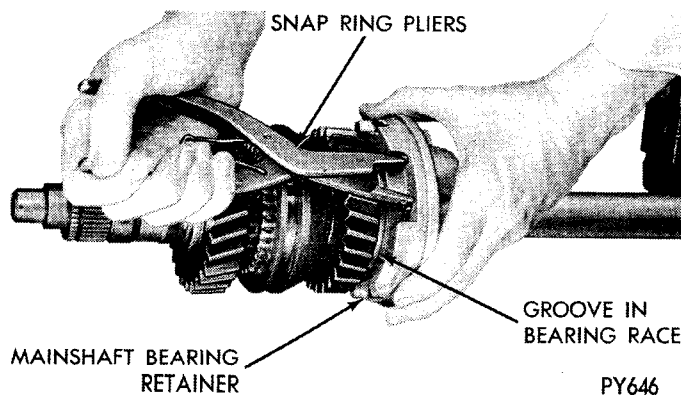

Fig. 18—Snap Ring Spread to Remove or Install Mainshaft Bearing Retainer
(4) Spread snap ring in mainshaft bearing retainer to disengage bearing groove and slide retainer off the bearing race (Fig. 18).
tainer groove and slide it over the bearing. Be sure snap ring seats in bearing groove (Fig. 18).